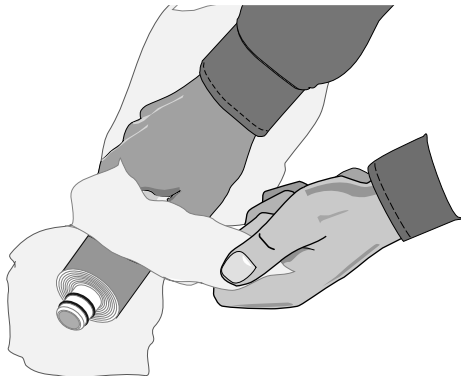

Figure 9: Peel the bag back from the membrane before inserting in housing
2. Peel back the bag from the cut end and use it as a holder to insert the RO Membrane, O-Rings first, into the Membrane Housing (see Figure 9).